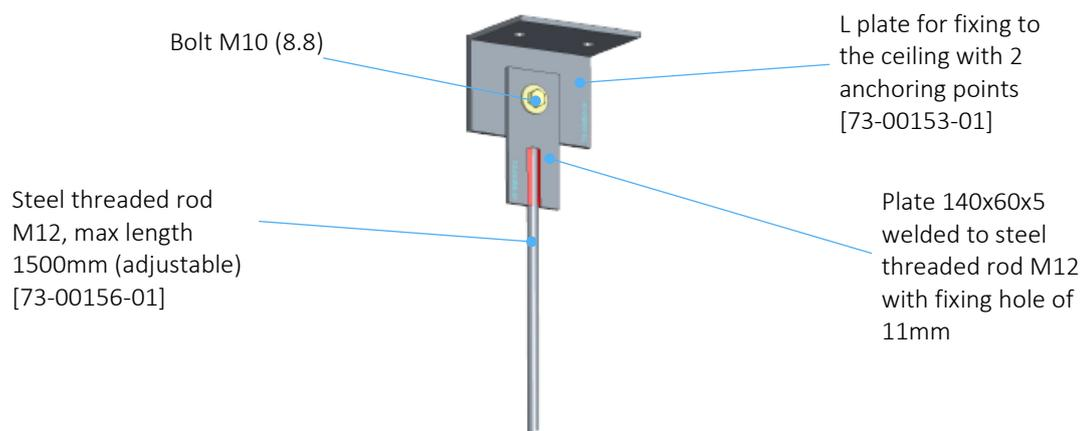
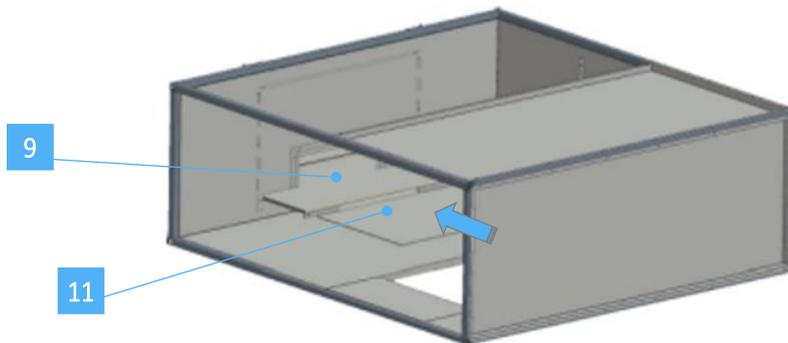

Fig. 4 Suggested anchoring system – Detail A
Fig. 13 *Inserting the small mirror*
Fix L plates to the ceiling and connect threaded rod M12 as shown in figure 4.
- 1 Take the 4 tubes inside the case: separate those with the threaded inserts [2] from those without [3]. Then take the two pre-assembled panels to the tubes [1] and connect them to the tubes by inserting them into the tenons (figure 4). All the holes on the tubes must be on the outer faces of the box. The tubulars with inserts must be mounted on the short side closer to the metal projections preassembled to the panels [1] (red detail in figure 4). If necessary, use a plastic hammer to completely insert the tenon inside the tube
- 9 Insert the dividing panel [13] (PN 73-00062-01) with the opening facing upwards, the fold of the longer side facing the back panel [7], in the position indicated by the red arrows in figure 13 and fixing it to the magnets on the profiles of the two side panels [1] (red detail in figure 4).